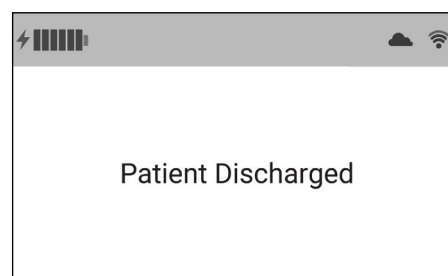

Figure 17. Patient discharge screen
3. A Patient Discharged screen will appear for several seconds. (Fig. 17)
4. The controller will turn off following patient discharge, three (3) minutes after both the support surface is disconnected and the controller is unplugged from power.